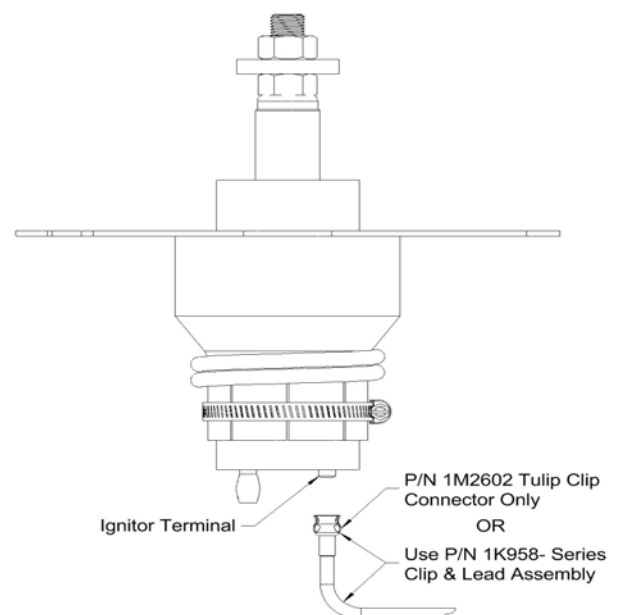

Fig. 3
7. Connect the ignitor terminal to the ignitor, as shown in Fig. 3. **DO NOT APPLY SIDWAYS FORCE TO THE IGNITOR TERMINAL. DOING SO CAN CAUSE THE GLASS INSULATOR TO CRACK AND THE TUBE WILL LOSE ITS VACUUM AND VOID THE WARRANTY!**